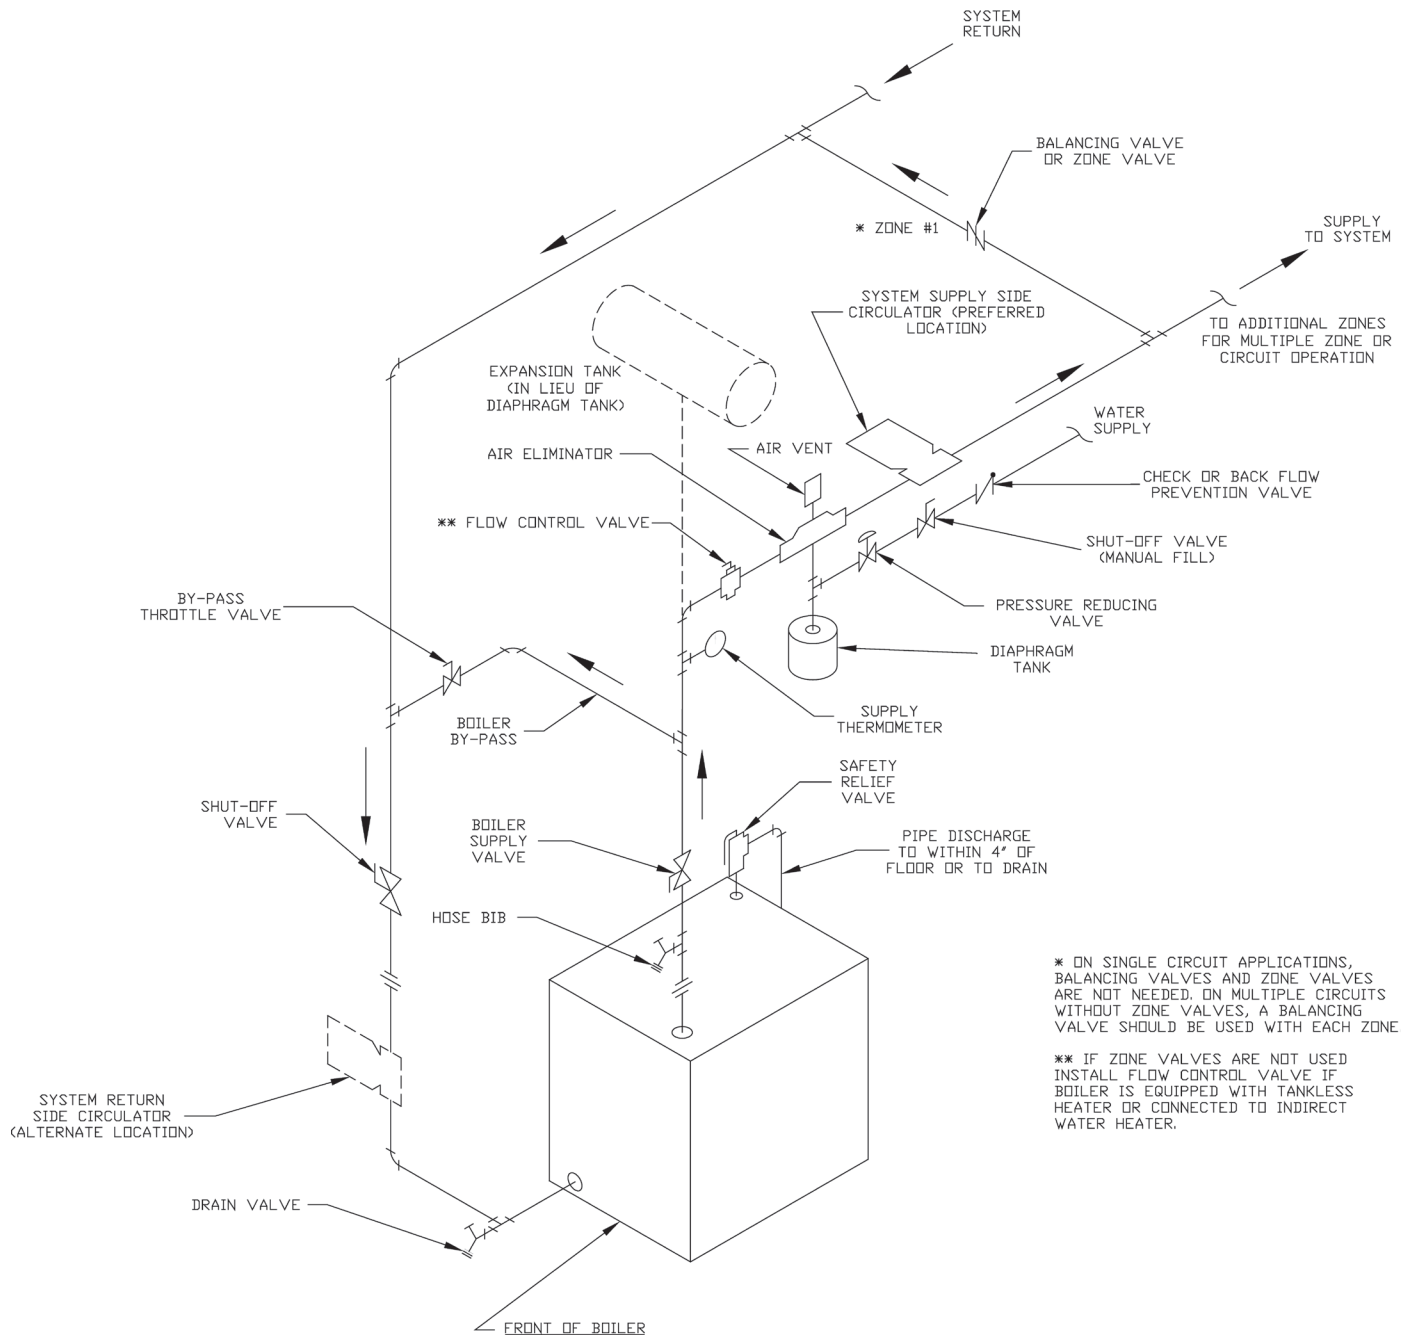

Figure 10: Recommended Boiler Piping for Series Loop Hot Water System
1. Install return piping supplied with boiler. Apply Teflon or Sealant to all joints prior to assembly. Thread 1 1/2" NPT x 5" Lg. return nipple into 1 1/2" NPT tapping located in lower left corner of front section. Thread 1 1/2" x 3/4" x 1 1/2" NPT tee onto 5" nipple. Thread 3/4" drain valve into 3/4" NPT connection on tee. Tighten all joints with wrench until water tight and 1 1/2" NPT return connection on tee is facing away from boiler horizontally to allow for proper burner swing door clearance, see Figures 1A, 1B and Figure 10.
2. Thread relief valve onto factory installed 3/4" NPT x 7/4" nipple located in left rear corner on top of boiler as shown in Figures 1A and 1B. Valve spindle must be in vertical position. Tighten with wrench. Pipe discharge as shown in Figure 10. Installation of the relief valve must be consistent with ANSI/ASME Boiler and Pressure Vessel Code, Section IV.
- a. For Forced Circulation HOT WATER HEATING. See Figure 10. Consult I=B=R Installation and Piping Guide No. 200.
Install a pipe tee between the circulator and boiler return along with a second tee in the supply piping as shown in Figure 10. The bypass should be the same size as the supply and return lines. Locate valves in the bypass and supply outlet as illustrated in Figure 10 for regulation of water flow to maintain higher boiler water temperature.